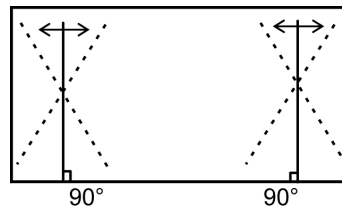

Fig. 3
- a. Adjust the vertical line to straight line of both sides of vertical lines (trapezoid) in Fig. 3 by TRAPEZ 1.